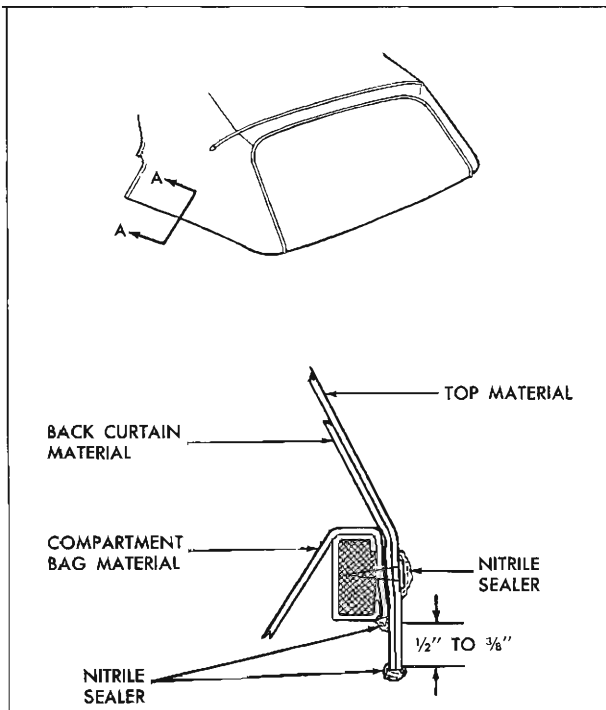

Fig. 21-52 Sealing at Trim Sticks
44. Remove trim sticks with attached top material from top compartment well. Back curtain should extend  $\frac{1}{2}$ " below trim sticks on Pontiac & Tempest styles. (See step 9 of installation procedure.) In addition, top material must extend  $\frac{1}{2}$ " to  $\frac{5}{8}$ " below trim sticks on Pontiac & Tempest styles, to minimize water wicking on inner lining of back curtain material. (See view "A-A" in Fig. 21-52). Trim top material as required.
45. Apply convertible top sealer (nitrile) onto all trimmed edges, around each tack head and around each trim stick attaching bolt hole. See view "A-A" in Fig. 21-52.